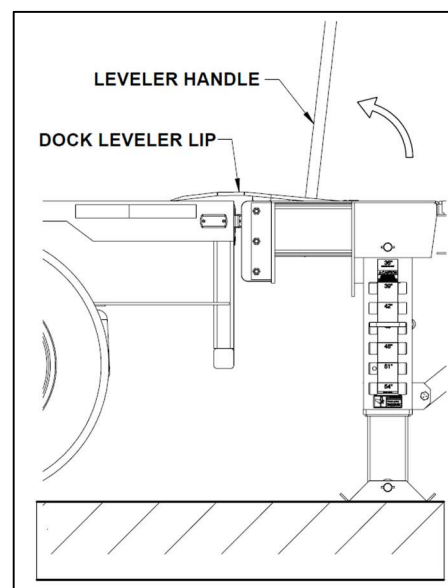

Figure 10c. Lowering Leveler onto truck/trailer
3. Allow the dock leveler to lower by slowly pressing the leveler handle forward. Lip will extend automatically as it is lowered onto the vehicle bed (Figure 10c).